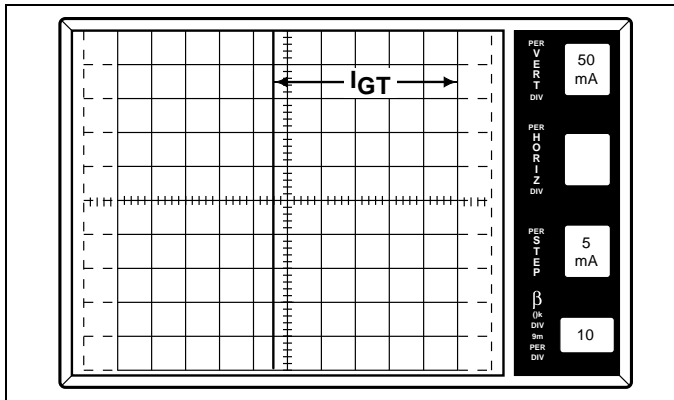

Figure 19.13  $I_{GT}$  in QIII is 27mA
- Repeat Procedure 11. (See Figure 19.13.)